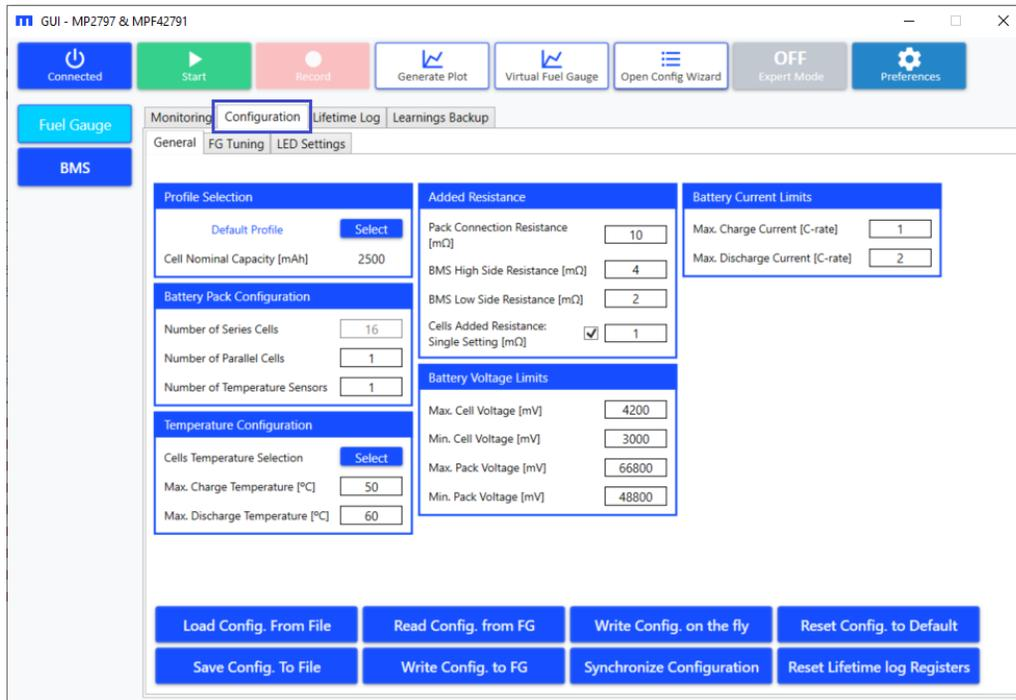

Figure 37: Fuel Gauge Configuration
2. Select the Configuration tab (see Figure 37 on page 30). There are three sub-tabs under the Configuration tab: General, FG Tuning, and LEDs Settings.
2. Select the Configuration tab (see Figure 37 on page 30).
2. Select the Configuration tab and click on the “LED Settings” sub-tab (see Figure 37 on page 30).